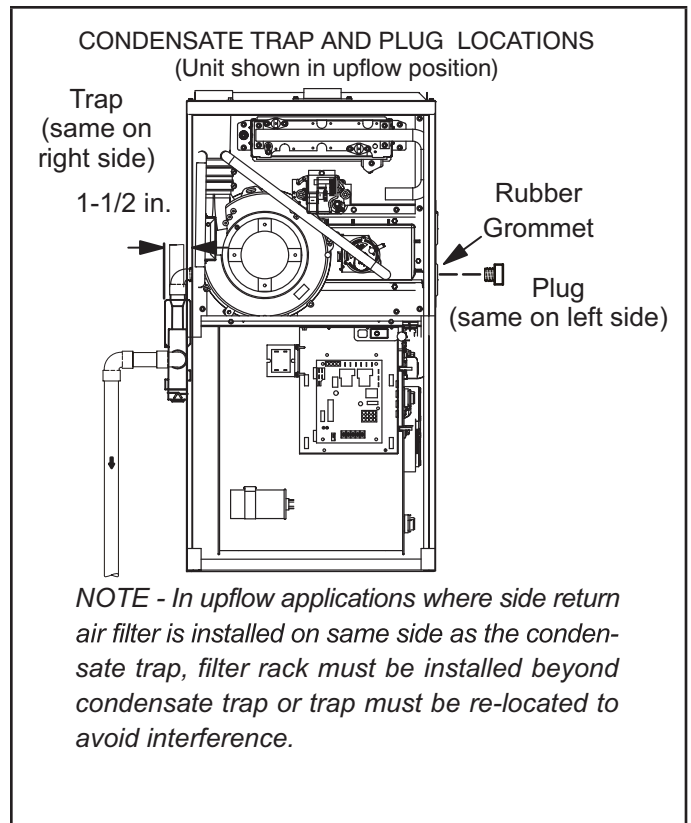
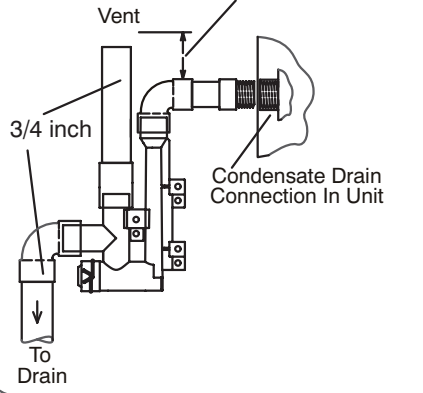

Figure 45
Figure 53
This unit is designed for either right- or left-side exit of condensate piping in upflow applications. In horizontal applications, the condensate trap must extend below the unit. An 8" service clearance is required for the condensate trap. Refer to Figure 45 and Figure 47 for condensate trap locations. Figure 53 shows trap assembly using 1/2" PVC or 3/4" PVC.
- 2 - Use a large flat head screw driver or a 1/2" drive socket extension and remove plug (Figure 45) from the cold end header box at the appropriate location on the side of the unit. Install provided 3/4 NPT street elbow fitting into cold end header box. Use Teflon tape or appropriate pipe dope.
- 3 - Install the cap over the clean out opening at the base of the trap. Secure with clamp. See Figure 53.
- 4 - Install drain trap using appropriate PVC fittings, glue all joints. Glue the provided drain trap as shown in Figure 53. Route the condensate line to an open drain. Condensate line must maintain a 1/4" downward slope from the furnace to the drain.